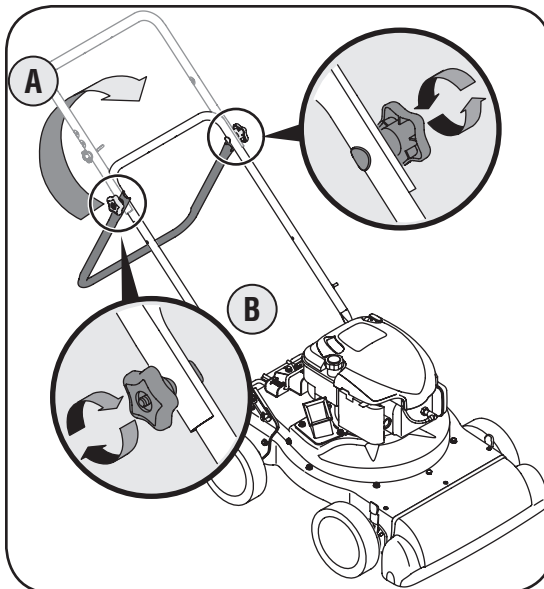

Figure 3-3
- a. Unfold the upper handle until it aligns with lower handle. Make sure the rope guide is on the right side of upper handle. See Figure 3-3.
- b. Secure the two handles by tightening the star knobs (carriage bolts must be seated properly into the handle). See Figure 3-3.